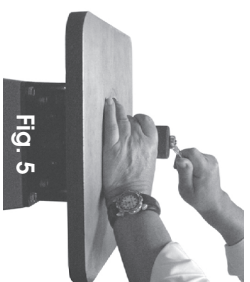

Fig. 5
1. Grasp and hold the sanding sleeve, loosen the nut on top of the arbor using 14mm spanner in a clockwise direction (see Fig. 5).